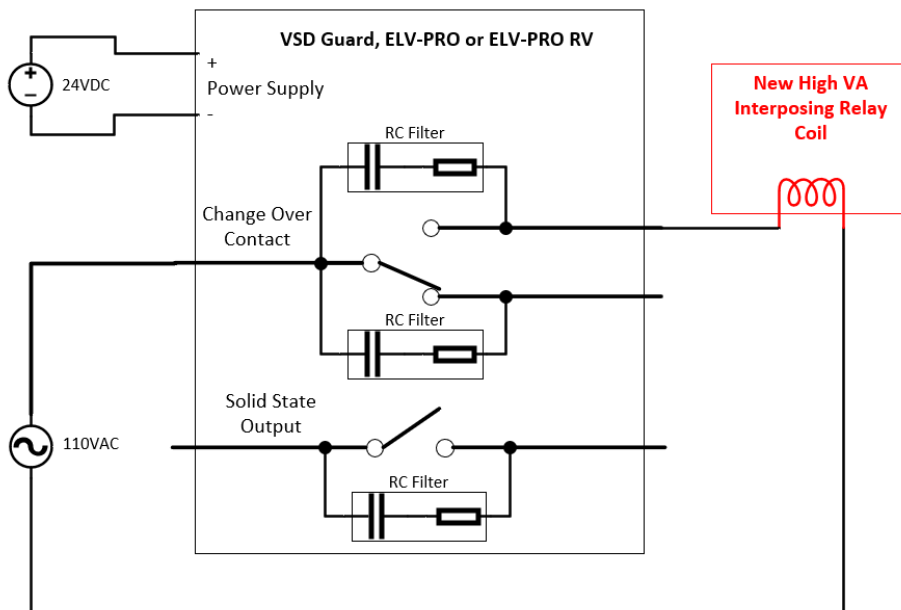

Figure 3: Use of higher VA rated relay coil circumvent vulnerability.
1. Change out the low VA rated relay coil for a higher VA rated relay coil such as those listed in the first **two rows** of Table 1. See Figure 3.